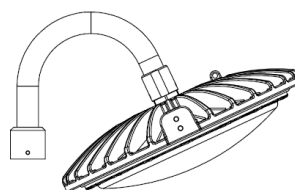

Figure 5
- ☞ The mounting types are for the use of Bending electrical tube mounting (Figure 5). Tube mounting thread is NPT 1-1/2”.
- ☞ Tighten tube locking set screw to conduit 24.5 kgf-cm (Figures 5).